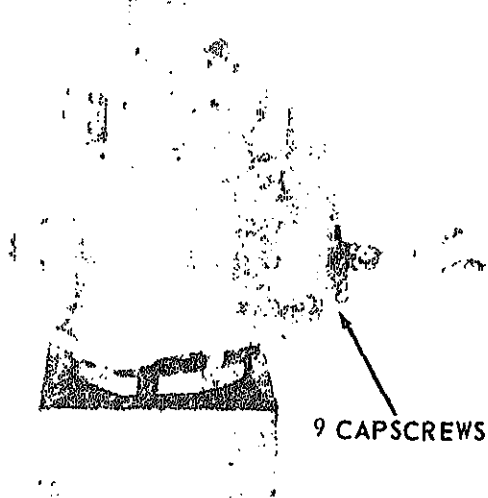

FIGURE 7-58.
b. Remove the nine (9) capscrews holding the valve to the pump housing (see figure 7-58).